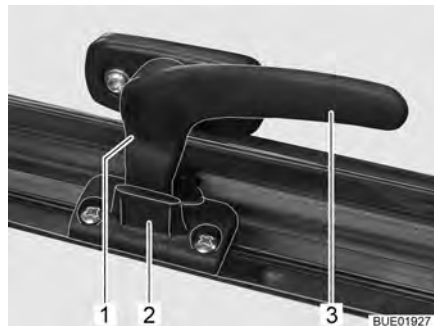

Fig. 18 Catch lever ("continuous ventilation" position)
- "Continuous ventilation" (Fig. 18)
- Turn the catch lever (Fig. 18,3) a quarter turn towards the centre of the window.
- Turn the catch lever a quarter turn towards the window frame. The locking catch (Fig. 18,1) has to be moved into the recess of window catch (Fig. 18,2).